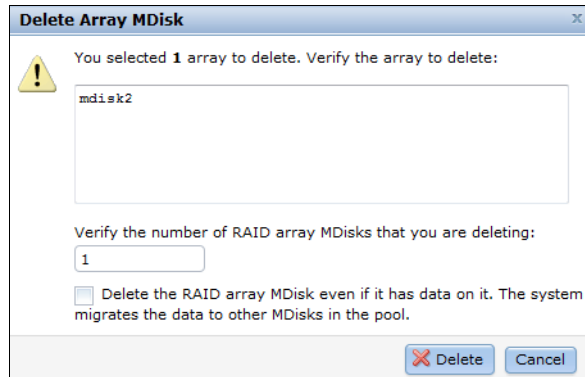

Figure 8-50 Delete Array MDiskS window
- **Delete:** An Array MDisk can be deleted by clicking **RAID Actions** → **Delete**. A confirmation of the deletion by entering the correct number of MDisk to be deleted is required (Figure 8-50 on page 331). You need to confirm the number of array MDisk you want to delete. If there is data on the MDisk, it can be deleted only by checking the item **Delete the RAID array MDisk even if it has data on it. The system migrates the data to other MDisk in the pool.**